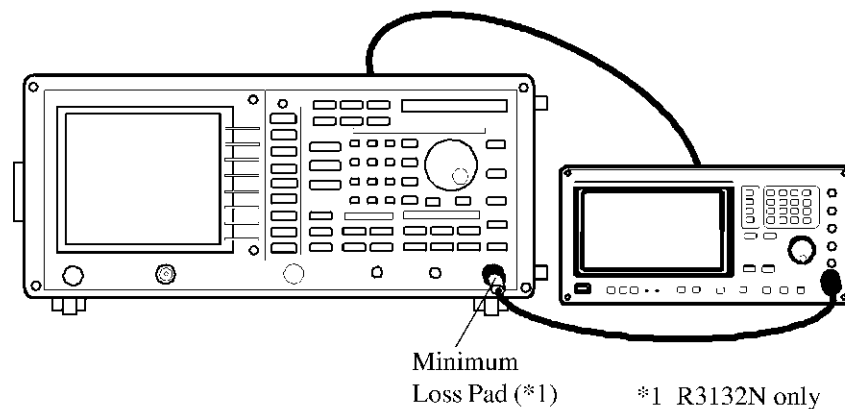

Figure 5-28 Setup for Checking the Offset Error (Internal Mixer Mode)
1. Connect the instruments as shown in Figure 5-28.